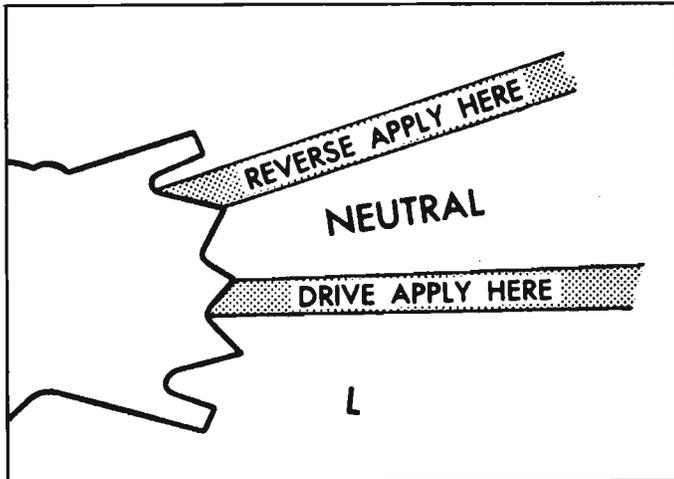

Fig. 6E-2—Shift Linkage Check Diagram
2. With engine at normal idle speed, then very slowly move the range selector lever up from "N" toward "R" and note by feel the point at which the reverse clutch applies. Properly adjusted, the reverse clutch should apply within the band from the tooth peak to full Reverse detent (fig. 6E-2).